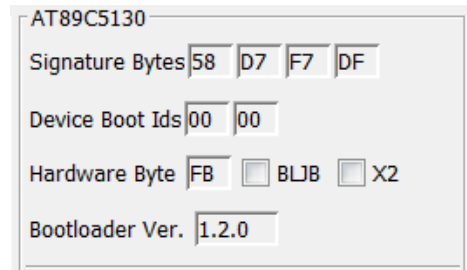

Figure 10.6
8. Make sure the “BLJB” bit is uncheck, Figure 10.6.